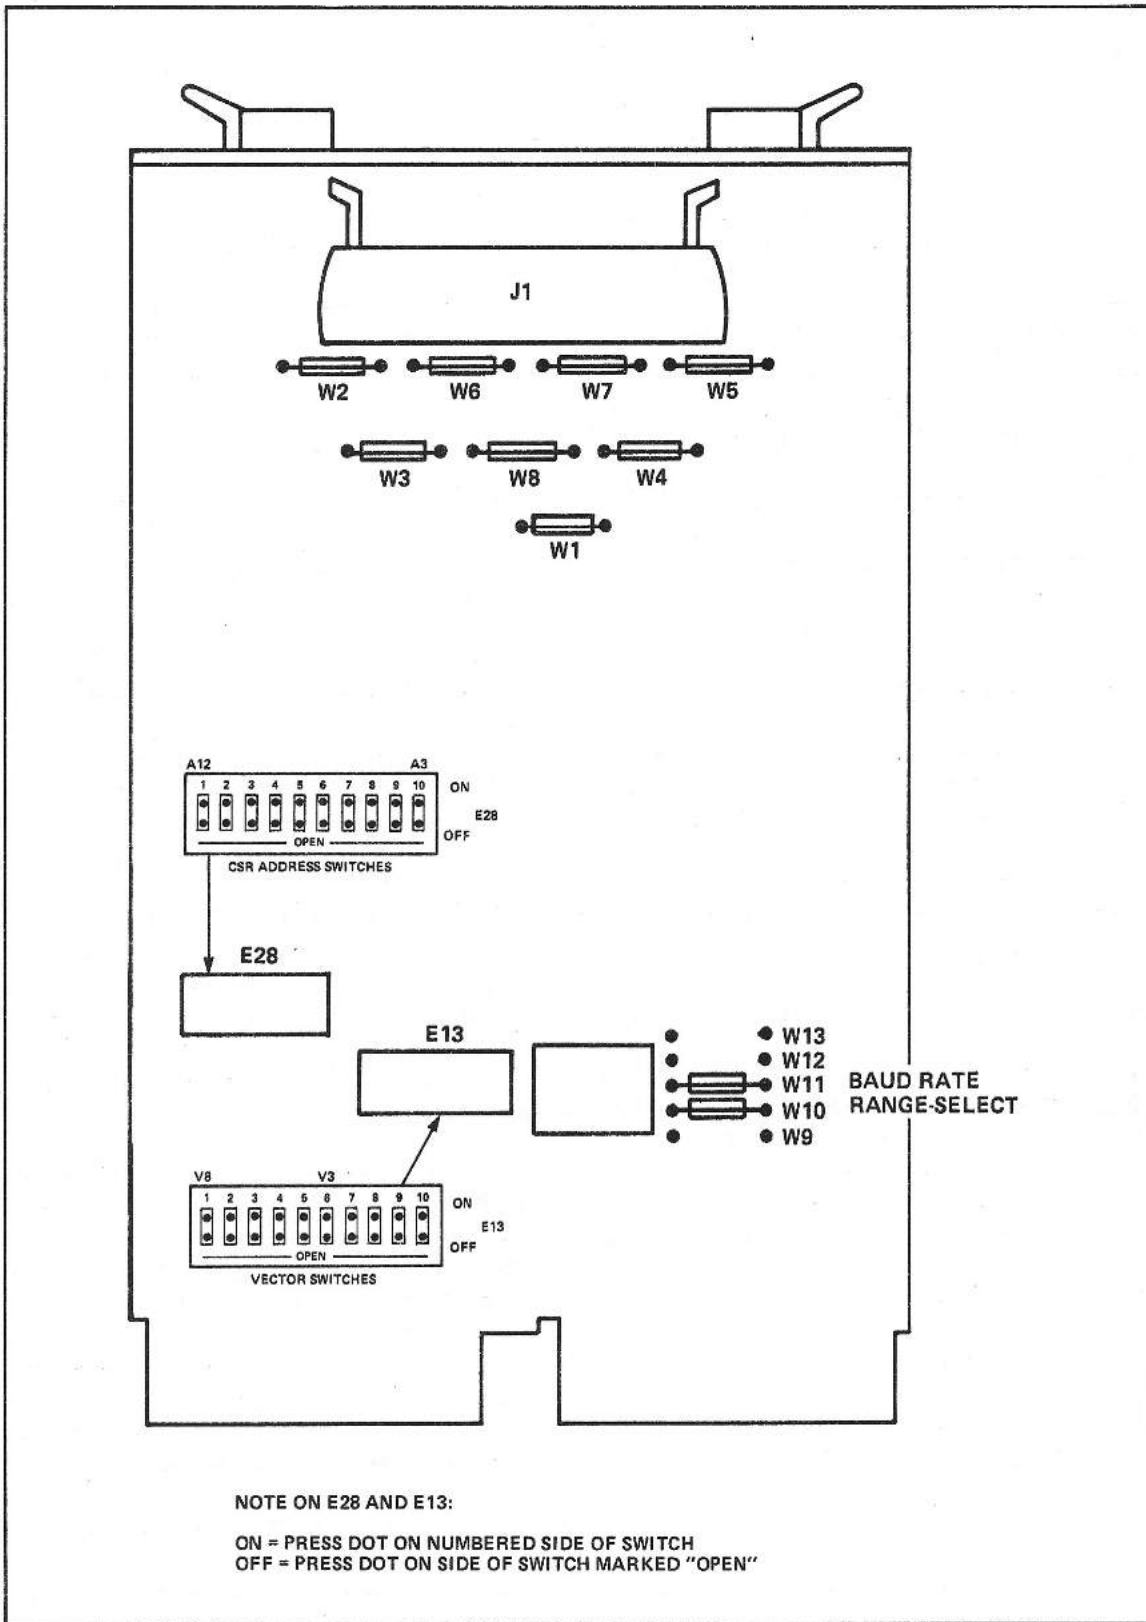

Fig. 4-8 Location of jumper pins on DZQ11
1. Setting the ten CSR address switches on E28 (A3 through A12). For the first DZQ11 used in your SMS 1000, refer to Table 4-22. For the second DZQ11 used, the CSR settings are given in Table 4-23. See Figure 4-8.
The DZQ11 device base address is assigned by making the appropriate settings on ten DIP switches located on the card's base-address switch group E28 (see Figure 4-8). These switch settings affect ten of the sixteen bits of the CSR base address. The three most-significant address bits are preset to 1's and the three least significant bits are preset to 0's. The ten DIP switches control the setting of base address bits 12 through 3.
(See Figure 4-8)
The DZQ11 device interrupt-vector address is assigned by making the appropriate settings on six of the ten rocker-type DIP switches located on the card's vector-address switch E13 (see Figure 4-8). These switch settings affect six of the sixteen bits of the interrupt-vector address. The seven most-
The following table describes the settings of the thirteen jumpers on the DZQ11. See Figure 4-8 for locations of jumpers.
(For first and second DZQ11. See Figure 4-8)